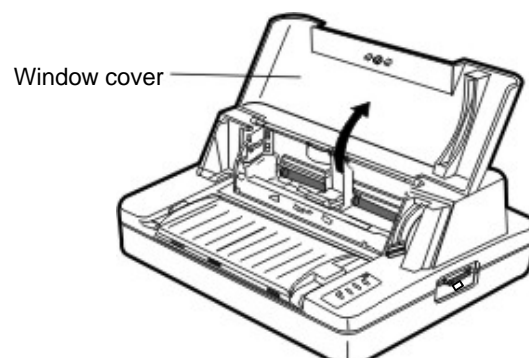

Figure 2-5 Opening the window cover
- 2 Open the window cover by holding the side of window cover as shown in Figure 2-5.